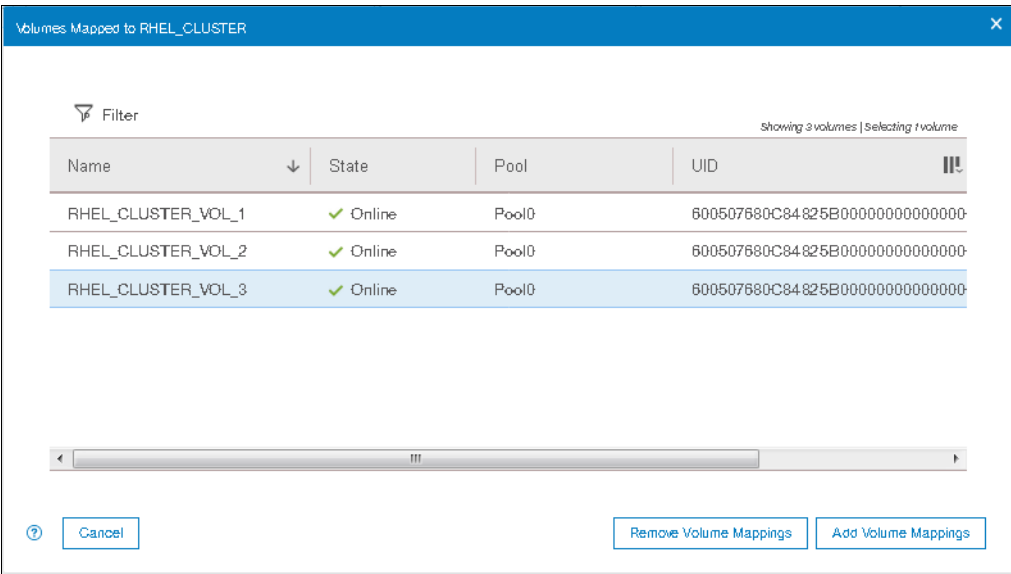

Figure 5-96 List of volumes mapped to a host cluster
3. A window showing list of volumes mapped to the host cluster is shown in Figure 5-96.